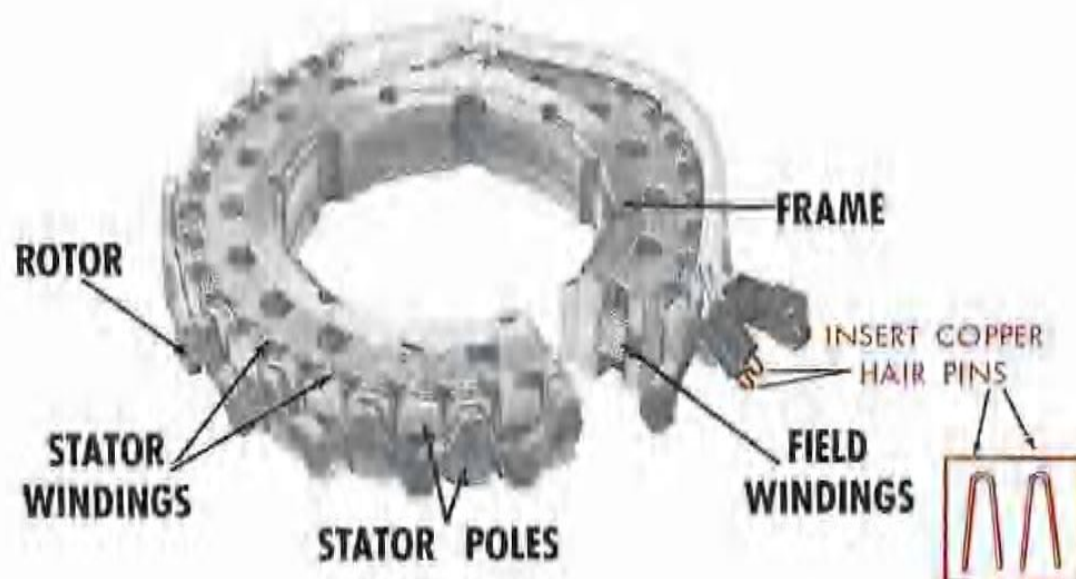

Figure 33
3. Place in each female connector making contact with each terminal. see Fig. 33.
7. When testing for shorted or open field windings leave the two copper hairpins in position as in Fig. 33.